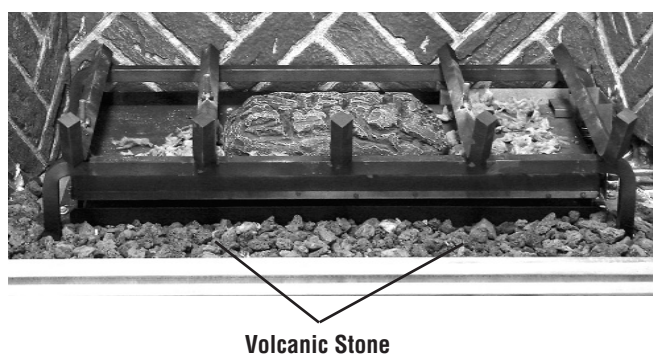

Figure 4—Volcanic Stone Placement
- If logs are not installed according to the log installation instructions, flame impingement and improper combustion could occur and result in soot and/or excessive production of carbon monoxide (CO), a colorless, odorless, toxic gas.
2. Place volcanic stone around the burner, as shown in **Figure 4**.